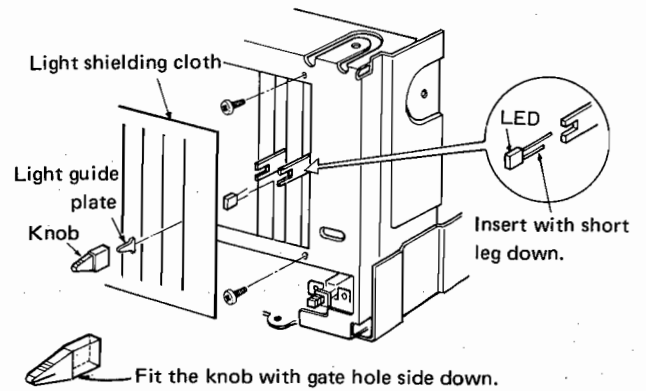

Fig. 11
2. Remove the light shielding cloth as in Fig. 11.
- \* The light shielding cloth and control P.C.B. can be removed together with the knobs. When removing the knobs, refer to Fig. 11.